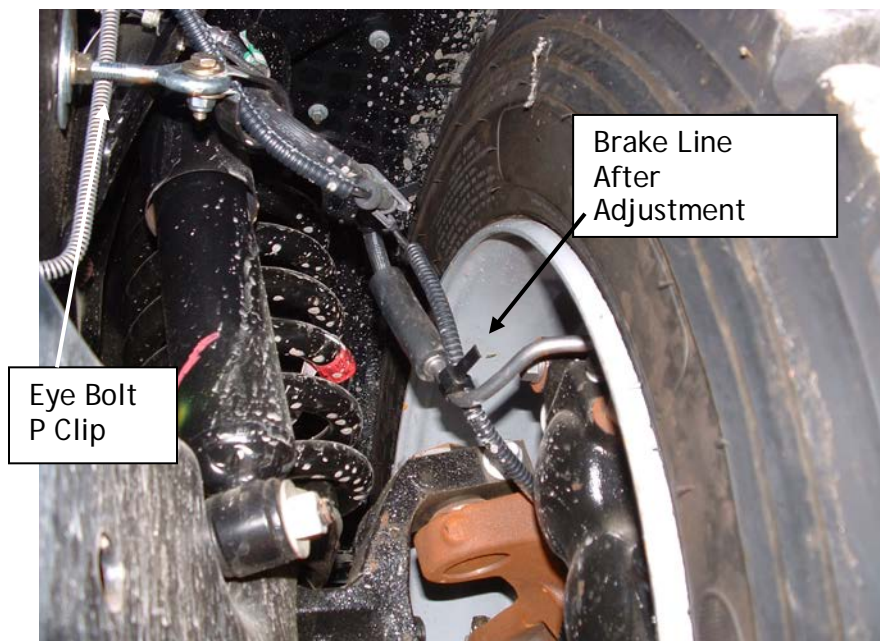
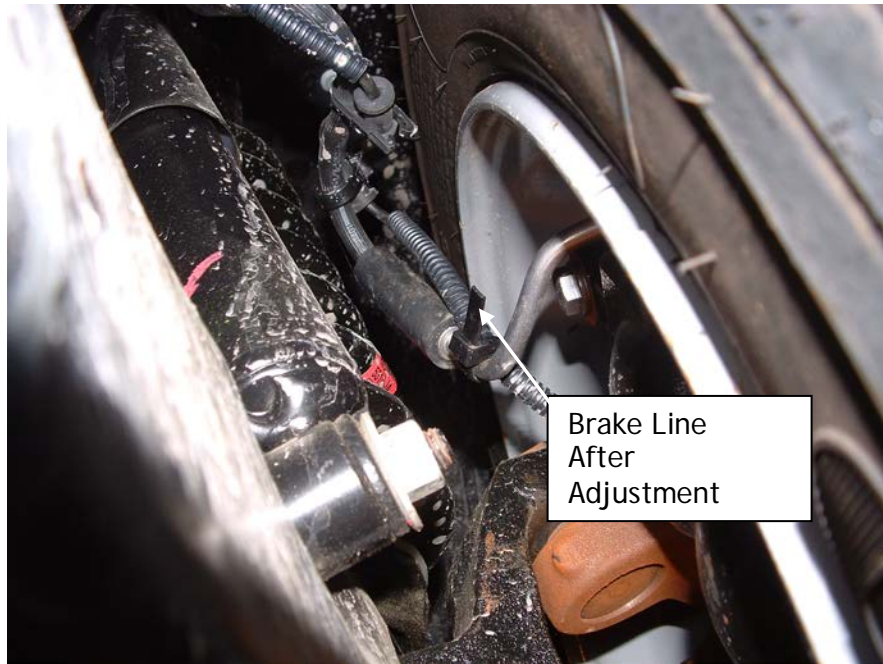

Figure 1: Brake line after 15 Degree bending adjustment, and eyebolt bracket location.
Figure 2: Brake line after 15 Degree bending adjustment.
10. The front brake lines can be tied back using the supplied hardware as follows: (Refer to Figure 1, Figure 2, and Figure 3).